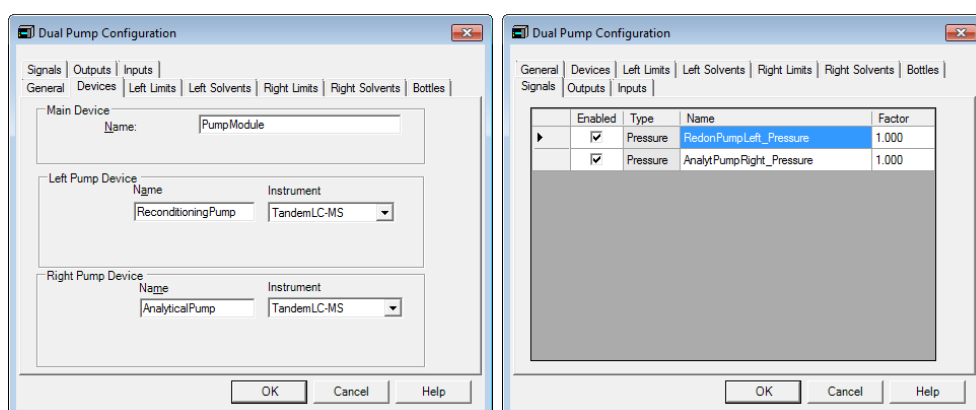

Figure 4: Pump configuration
- b. If two separate pumps are present, choose **HPLC: Vanquish** followed by the respective pump type. It is recommended to add a descriptive extension to the respective device names and signal names (Figure 4). This will show up on the module panels and simplifies distinction.